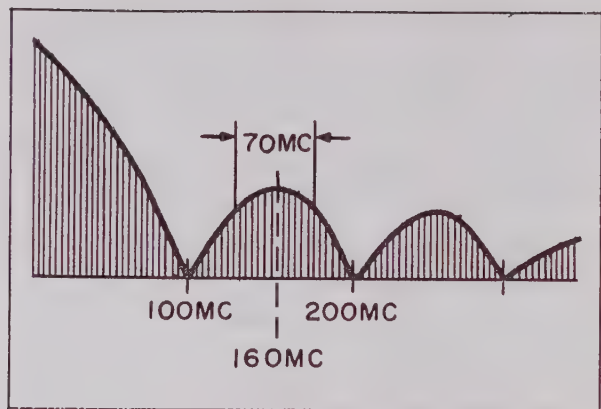

Figure III-2. Spectrum of .01 used Pulse.
6. Very narrow pulse signals (in the order of .01 μ sec) of high amplitude will produce a video pulse in the input mixer. The detected video pulse contains spectral energy which is accepted directly by the 160 MC i-f. Figure III-2 illustrates the spectrum of a .01 μ sec pulse.